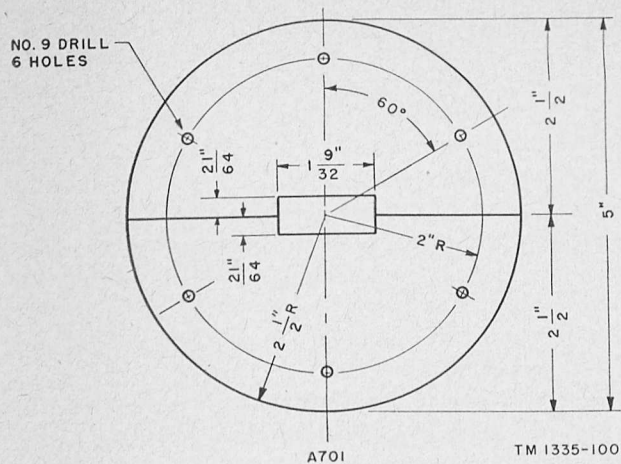

Figure 40. Ceiling plate.
- (2) Remove the two clamping bolts, which hold the flange ring, at the top of the deck fitting.
- (3) Remove the two halves of the flanged ring and insert the waveguide into the deck fitting.
- (4) Place the two halves of the flanged ring over the waveguide, replace the two clamping bolts, and fasten securely.
- (5) Apply Permatex No. 2 at the sealing faces of the deck fitting base and the flanged ring.
- (6) Install the ceiling plate (fig. 40) to hold